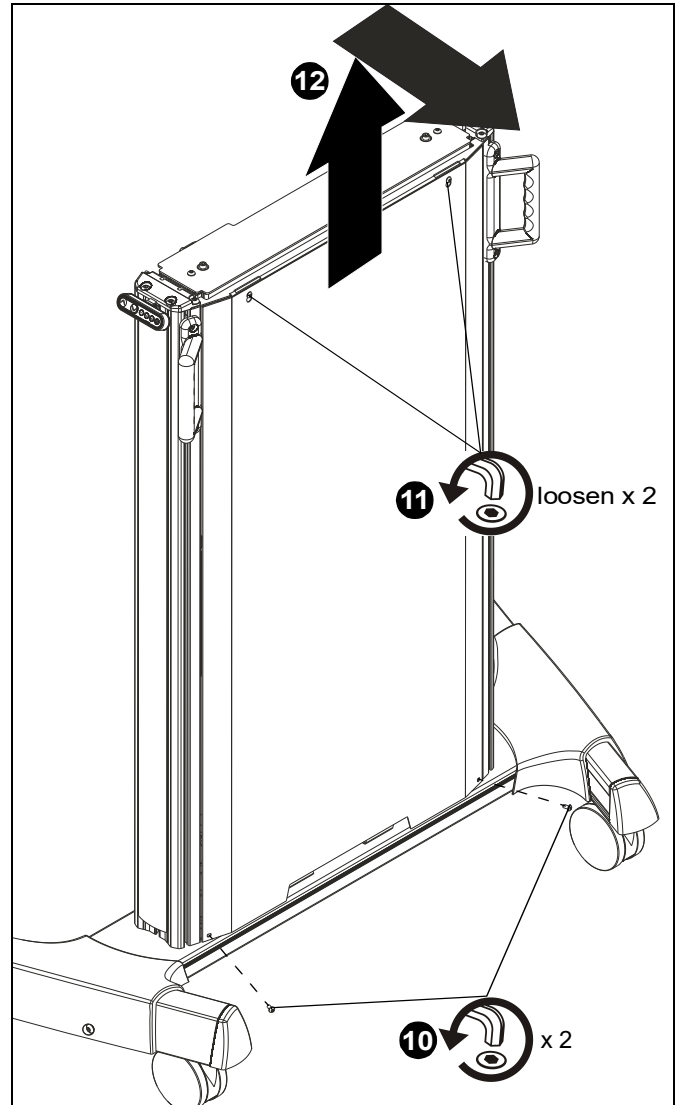

Figure 5
10. Remove bottom two screws from back cover. (See Figure 5)
11. Loosen top two screws from back cover. (See Figure 5)
12. Remove back cover by lifting cover up and out. (See Figure 5)